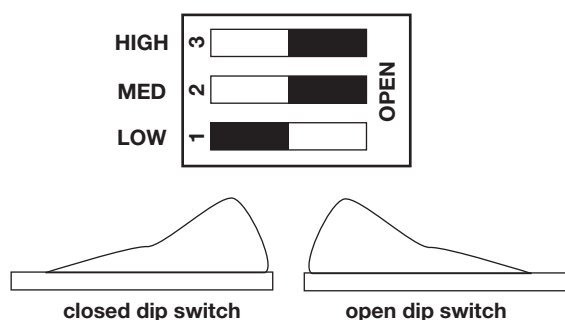

Figure 10
3. If the loop current can not be decreased to at least 4.50 mA, turn the Zero Coarse potentiometer fully clockwise, close DIP switch positions “MED” and “HIGH” sequentially (ONLY ONE SWITCH POSITION SHOULD BE CLOSED AT A TIME—THE OTHER TWO POSITIONS MUST REMAIN OPEN). Repeat Step 2. See Figure 10.
4. If the loop current output cannot be decreased to at least L1mA + 0.5 mA, turn the Zero Coarse potentiometer fully clockwise, close Zero Coarse DIP switch positions #2 and #3 sequentially (ONLY ONE SWITCH POSITION SHOULD BE CLOSED AT A TIME—THE OTHER TWO POSITIONS MUST REMAIN OPEN). Repeat Step 3. See Figure 10.